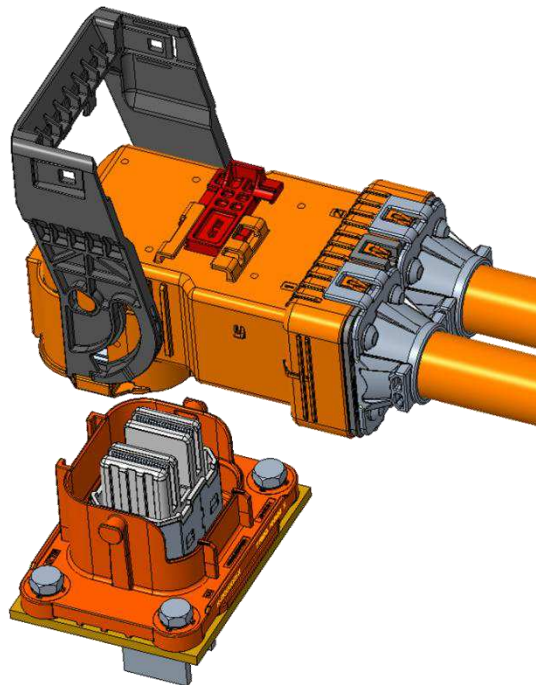

Figure 17: Plug and Header Alignment
2. Align the plug and header connectors as shown in Figure 17.